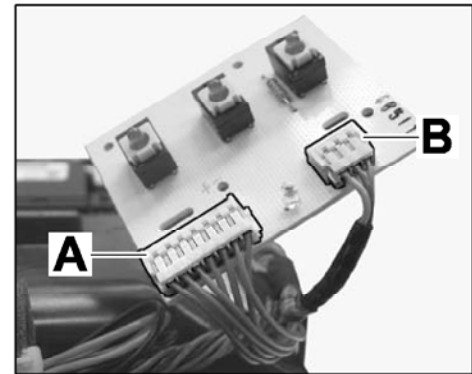

Figure 16
- 5.1.1 Connect connector (X6) on electric wire harness (retrofit kit) ⇒ *Figure 16-A-* and 3-pin connector (X4) ⇒ *Figure 16-B-* to the PCB.